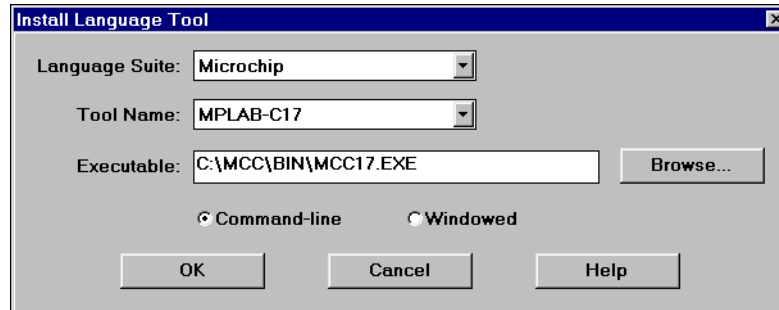

Figure 5.15: Install Language Tool – MPLAB-C17
1. Select *Project > Install Language Tool...* and check that MPLAB-C17 references the `mcc17.exe` executable (Figure 5.15). Your executable path may be different from the figure.